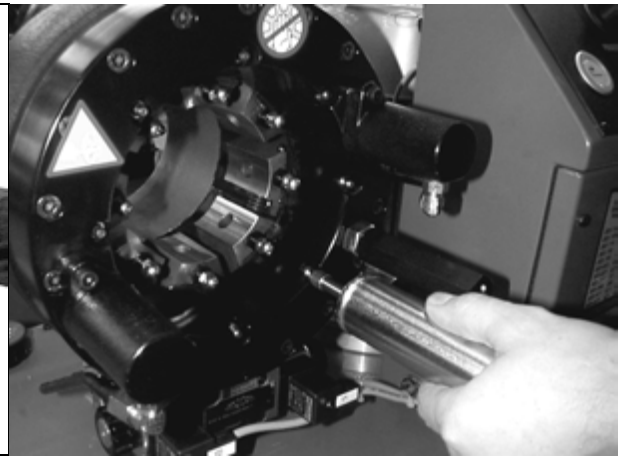

Fig. 2
- Lubricate **the front side of the die** through the grease nipples using a compressor gun (see fig. 2).